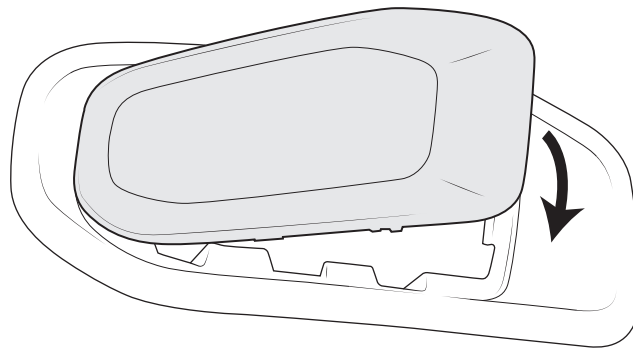

Figure 27
- B. Install factory bezel or block off cover into the AEV bezel, then secure with the factory square head bolts and 10mm nuts saved from step 5 of Disassembly (fig. 27).